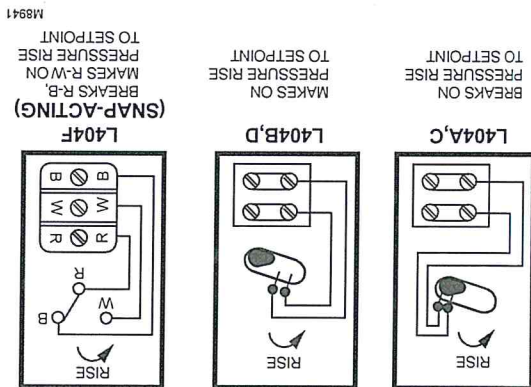
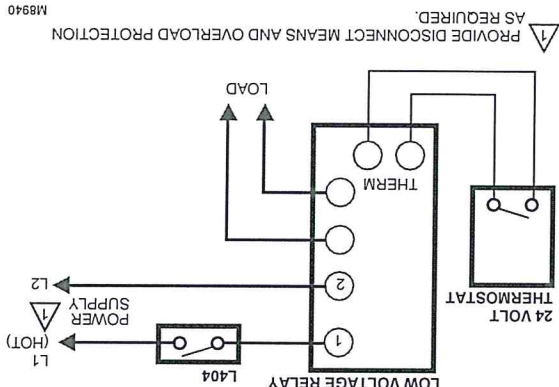

Fig. 3. L404 terminal blocks and internal schematics.
Fig. 5. L404 used as a limit or as an operating controller.
4. All models have a terminal block inside the cover (see Fig. 3 and 4) and a 7/8 in. (22 mm) hole in one side for 1/2 in. conduit, cable or wires. Remove the front cover by loosening the screw at the bottom of the main scale. Refer to Fig. 5 through 9 for typical hookups. Follow the burner or boiler manufacturer wiring diagrams, if provided.